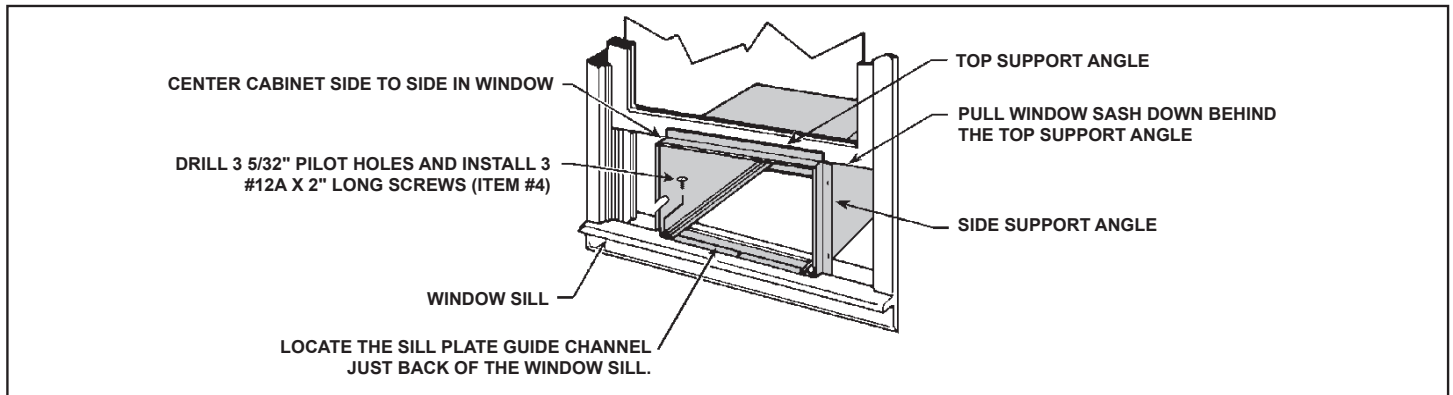
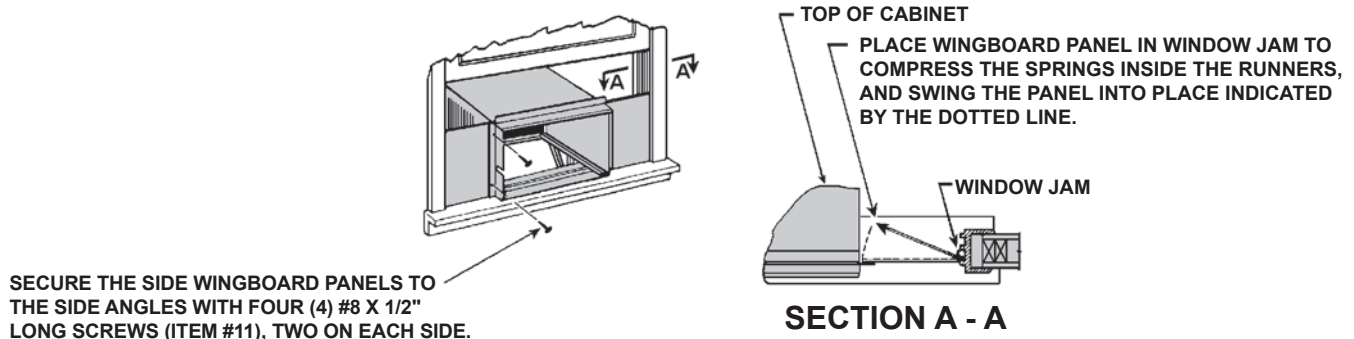

Figure C.5.2
Figure C.5.7
STEP 5. . CABINET MOUNTING: Raise the lower window sash 1/4" more than the height of the cabinet. Carefully slide the cabinet through the open window until the sill plate channel rests behind the window sill and the top support angle rests against the window (See Figure D). Center the cabinet side to side and drill three (3) 5/32" diameter pilot holes into the window sill using the holes in the cabinet sill plate as a guide. Install three (3) #12A x 2" long screws (Item #4) (See Figure C.5.2).
Step 9. INSTALL SIDE WINGBOARD PANELS: Be sure that the cabinet has been secured to the window sill and the outside support brackets have been installed as shown in Figures C.5.2 and C.5.3. Raise the window sash and install the right and left side wingboard panels (See Figure C.5.7).